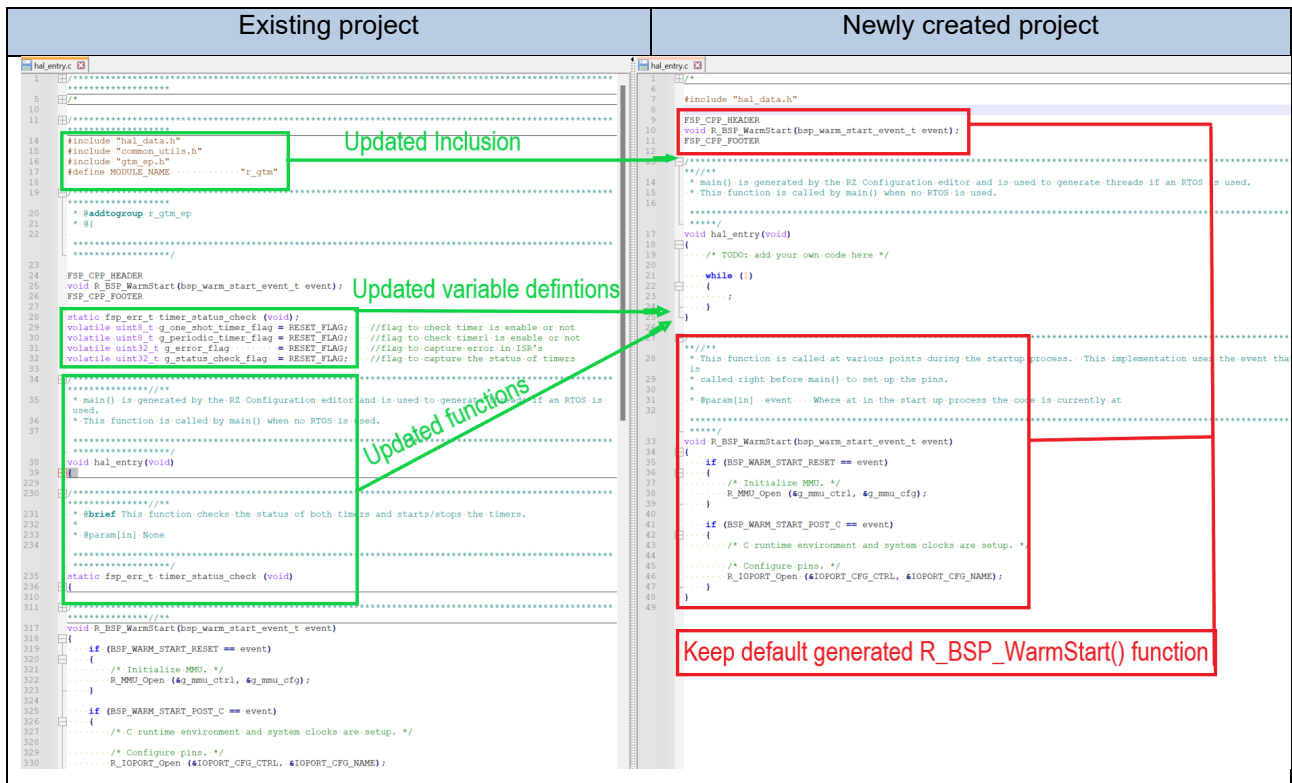

Figure 9. Keep generated R_BSP_WarmStart() function
- In hal_entry.c, update only the source code related to the example project while keeping the generated template. As shown in Figure 9, update only other functions in hal_entry.c, excluding R_BSP_WarmStart().